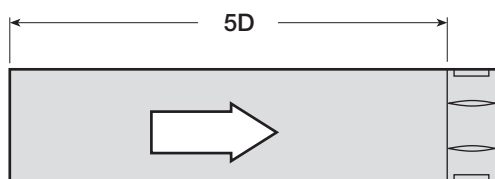
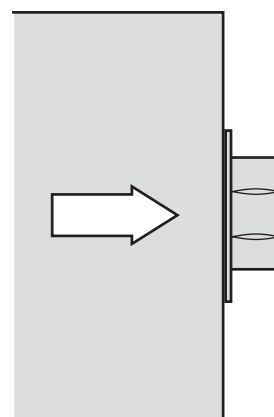

Figure 5.2
Figure 5.5
Tested for leakage in accordance with ANSI/AMCA Standard 500-D, Figure 5.5.
Tested for air performance in accordance with ANSI/AMCA Standard 500-D, Figures 5.2, 5.3 and 5.5.
**Figure 5.2** Illustrates a ducted damper exhausting air into an open area. This configuration has a lower pressure drop than Figure 5.5 because entrance losses are minimized by a straight duct run upstream of the damper.
**Figure 5.5** Illustrates a plenum mounted damper. This configuration has the highest pressure drop because of high entrance and exit losses due to the sudden changes of area in the system.